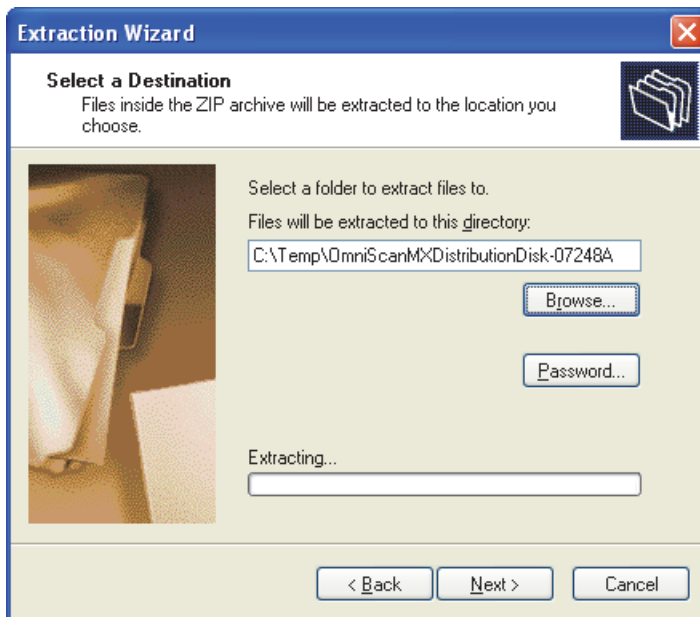

Figure 4-7 Select a Destination page of the Extraction Wizard
10. In the **Select a destination** page of the **Extraction Wizard** dialog box, click **Browse** (see Figure 4-7 on page 69).